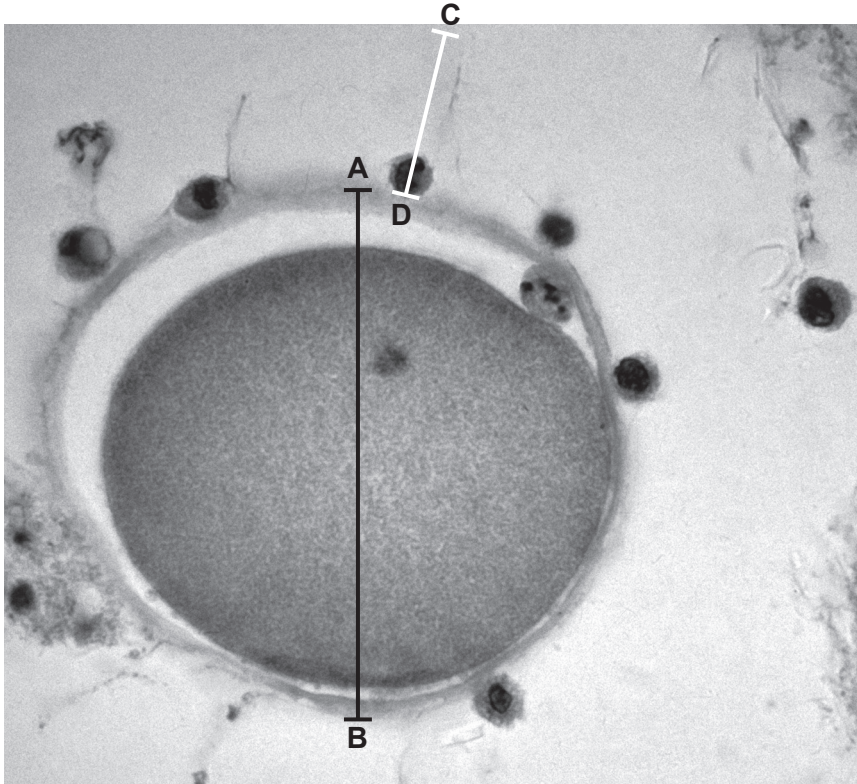

Fig. 2.1
- (i) Measure the lengths of lines **AB** and **CD** on Fig. 2.1. Include the unit.
Calculate the magnification of the ovum in Fig. 2.1 using the formula:
$$\text{magnification} = \frac{\text{length of line AB on Fig. 2.1}}{\text{actual diameter of ovum}}$$
$$\text{magnification} = \frac{\text{length of line CD on Fig. 2.1}}{\text{actual length of sperm cell}}$$